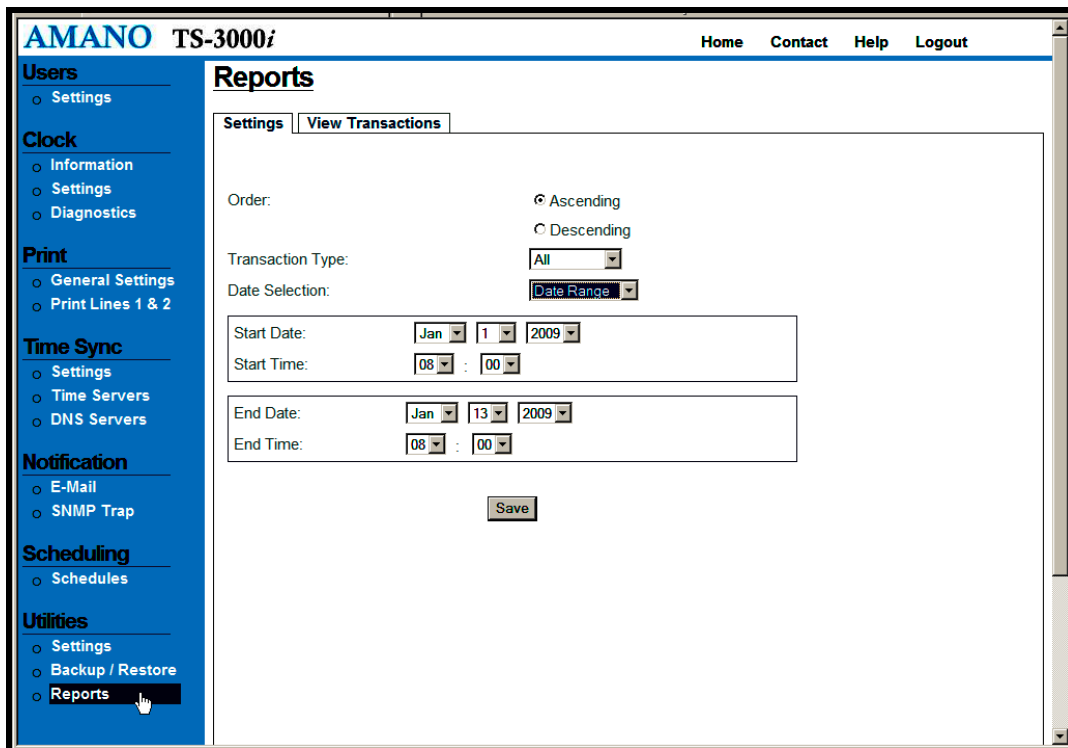

Figure 4-27: Reports Settings
- Step 1.** Click on the **Reports** link under **Utilities**, and the **Reports** screen will appear to show the **Settings** tab (see *Figure 4-27*).